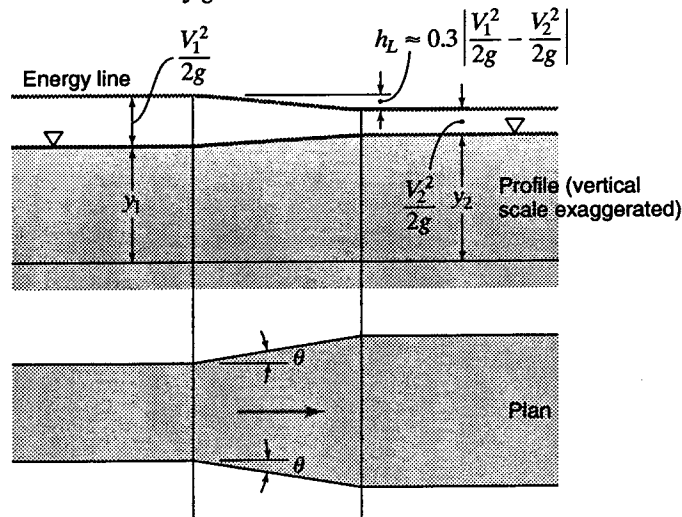

Figure 10.32
10.78 Refer to Fig. 10.32. A rectangular channel changes in width from 5 to 7.5 ft. Measurements indicate that $y_1 = 3.00$ ft and $Q = 62$ cfs. Determine the depth y_2 by (a) neglecting head loss; (b) considering the head loss to be given as shown on the figure.